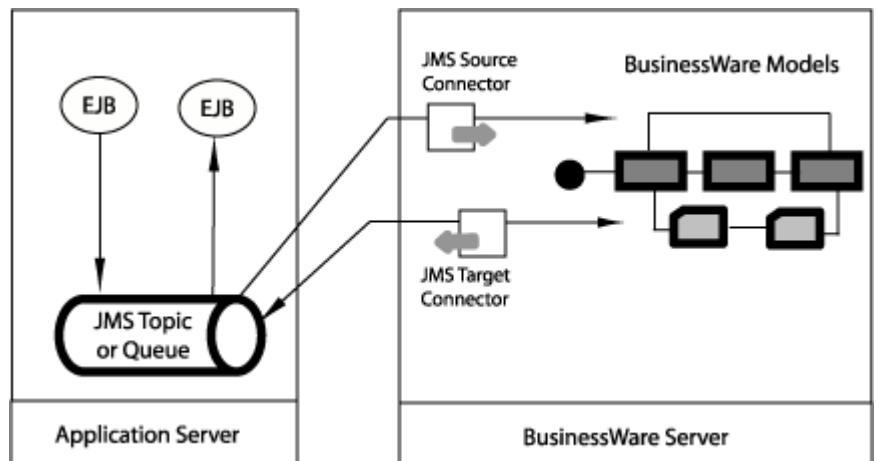

Figure 8-6 BusinessWare Messages and JMS Queues
- BusinessWare can push messages into a JMS (Java Messaging Service) queue or topic in the J2EE application server. (See Figure 8-6.)
Figure 8-6 shows connectivity using a JMS queue or topic.